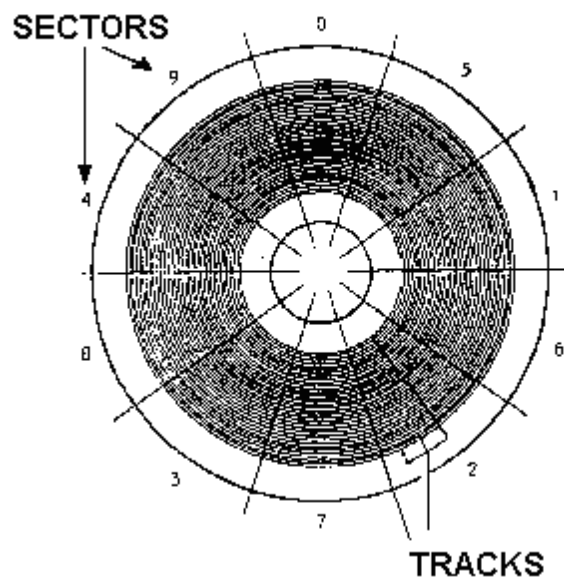

Figure 8-2.—Tracks and sectors of a magnetic disk.
Data is stored on a floppy disk in circular *tracks*. Figure 8-2 shows a circular track on a floppy disk. The total number of tracks on a floppy disk is permanently set by (1) the number of steps the disk drive's magnetic head stepper motor can make, and (2) whether the disk drive has a magnetic head for one or both surfaces of the floppy disk. These two things will also determine the type of floppy disk that's needed. Each type of disk is rated with a number that represents how many *tracks per inch (TPI)* it can hold. Some common track capacities are 40, 48, 80, and 96 TPI.
Each track of a floppy disk is broken up into arcs called *sectors*. A disk is sectored just as you'd slice an apple pie. Figure 8-2 shows the sectors of a floppy disk. How many slices are made? That depends on who made the disk and in what host computer the disk is used.